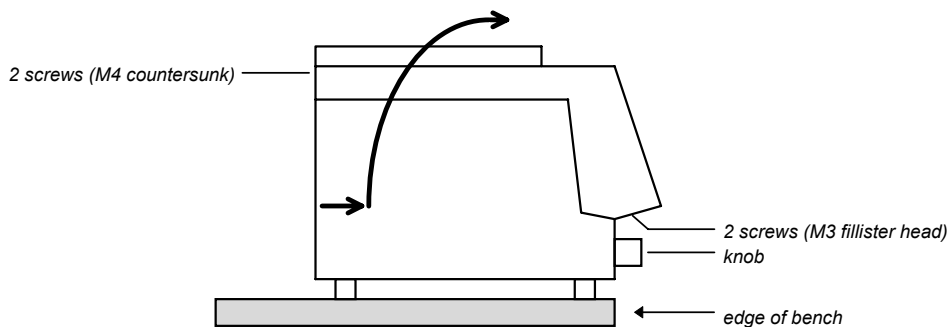

Fig. 8
- Place instrument over edge of bench to allow the M3 screws to be removed (Fig. 8)